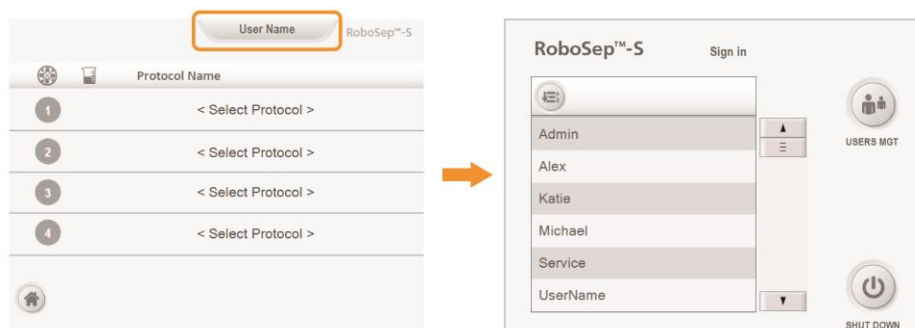

Figure 16. Accessing the User Profile Screen from the Run Samples Screen
To access user profiles, select  [Users] on the Home screen or simply select the User Profile tab at the top of the Run Samples screen. All RoboSep™-S user profiles will be listed in the User Profile screen (Figure 16).
1. Select  [Add user profile] from the User Profile screen (Figure 16).
1. Select  [Copy user profile] from the User Profile screen (Figure 16).
1. Select  [Delete user profile] from the User Profile screen (Figure 16).